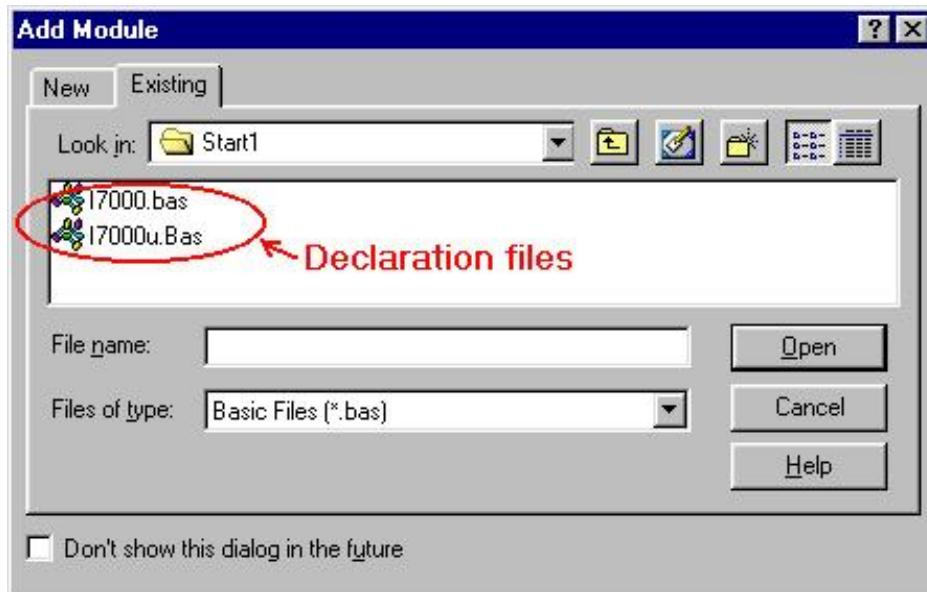

Figure 3-1-7. Adding the declaration files
- After the "Add Module" window pops up, select the tab page "Existing" and change to the folder that contains the user's project files. Then add these declaration files. Refer to Figure 3-1-7.